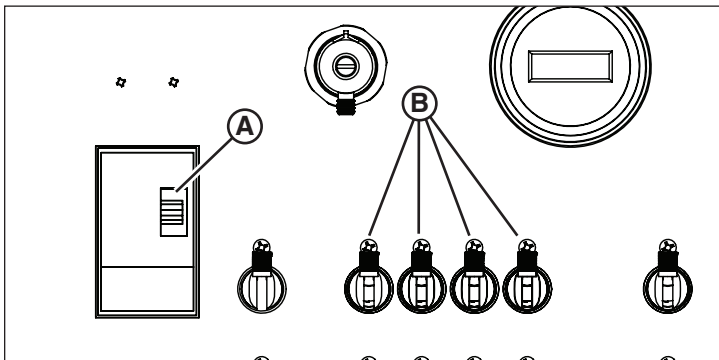

Figure 19
- Turn on the main light breaker (A, Figure 19) (if set to OFF).
- Turn on individual light switches (B, Figure 19) (1 - 4, if set to OFF).